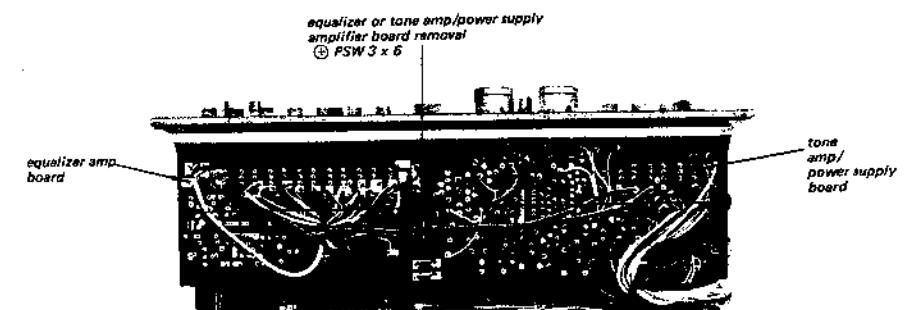

Fig. 2-6. Equalizer and tone amplifier/power supply board removal
2. Remove the three screws (④ B 2.6 x 4) securing the 4-key pushbutton switch to the front subchassis as shown in Fig. 2-6.
3. Remove the four screws (④ PSW 3 x 6) securing the tone amp/power supply board to the front subchassis as shown in Fig. 2-6. This frees tone amp/power supply board together with tone controls.
2. Remove the screws (④ PSW 3 x 6) securing the equalizer amp or the tone amp/power supply amplifier board to its mounting bracket as shown in Fig. 2-6.